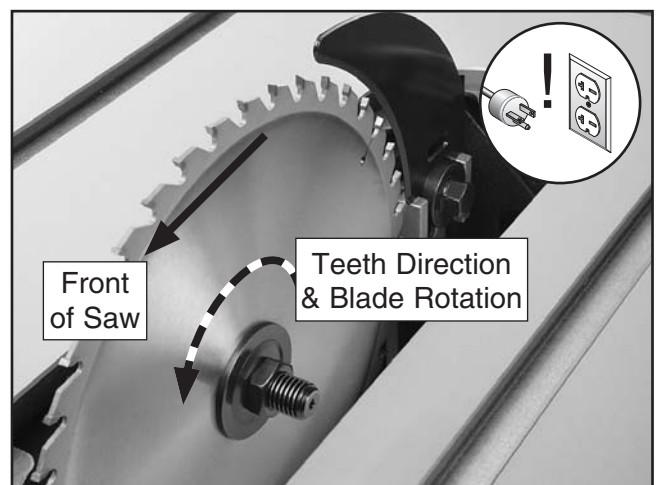

Figure 36. Correct blade direction.
5. Slide the blade over the arbor with the teeth facing the front of the saw, as shown in **Figure 36**.